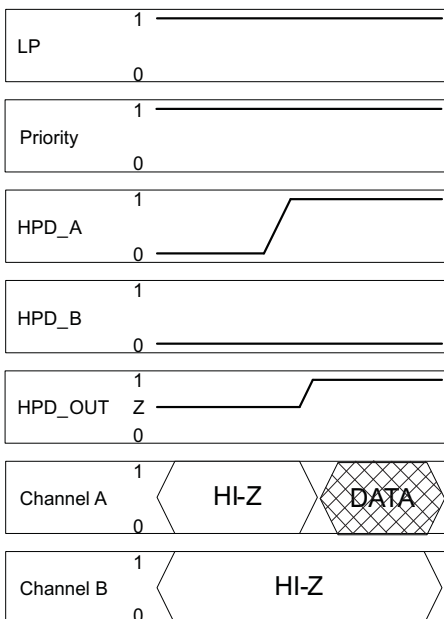

Figure 38.
- Case two: In this case both HPD inputs are initially LOW and the low power pin is HIGH. In this initial state the device is in a low power mode. Once one of the HPD inputs goes to a HIGH state, the device comes out of the low power mode and enters active mode enabling the main link and auxiliary I/O. The port associated with the HPD input that went HIGH is selected and the HPD output to the source is enabled and follows the logic state of the input HPD (see Figure 38). This is specified as $t_{Z(HPD)}$. Again, the state of the Priority pin has no effect in this scenario as only one HPD input port is active.